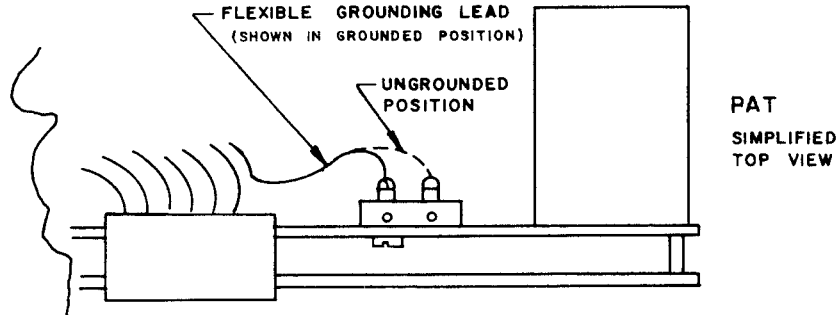

FIG. 2-3 LOCATION OF GROUNDING LUG.
- 2-8 a) SAFETY GROUND. For safety reasons it is important that the metal chassis of the PAT power supply be connected to an a-c ground. If a 3-wire line cord and a properly grounded outlet are used, the grounding is automatically accomplished. If only a 2-wire line cord is used, the metal chassis of the power supply must be grounded separately by returning barrier-strip terminal (3) to an a-c ground.
- b) SYSTEM GROUND. The d-c output terminals of the PAT power supplies are isolated from the a-c power line and from the chassis, except for a capacitor/resistor series connection from the negative (-) output to chassis. Since no d-c connection exists to the chassis, either side of the power supply may be grounded. A maximum of 500V (d-c or p-p) can be connected between chassis and either output terminal. If the provided internal capacitor/resistor connection from (-) output to chassis is not desired, and the positive side of the PAT is to be grounded, the system ground may be established outside the power supply by removing the provided flexible grounding lead from the grounding lug and transferring it to the "blind" or ungrounded position. (Refer to FIG. 2-3.) The output of the PAT is now completely "floating," and either the positive or negative may be grounded elsewhere in the system or at the load.